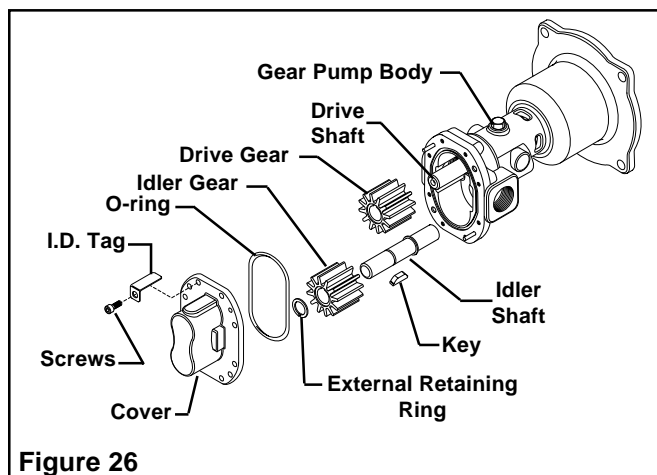

Figure 26
6. Insert the Key into the Drive Shaft; then, slide the Drive Gear onto the Drive Shaft (See Figure 26)
7. Slide the Idler Gear onto the Idler Shaft (See Figure 26).
8. Install the External Retaining Ring securing the Idler Gear to the Idler Shaft (See Figure 26).
9. Slide the Idler Shaft and Idler Gear into the Bushing located in the Gear Pump Body (See Figure 26).
10. Install a new O-ring into the o-ring groove of the Gear Pump Body (See Figure 26)